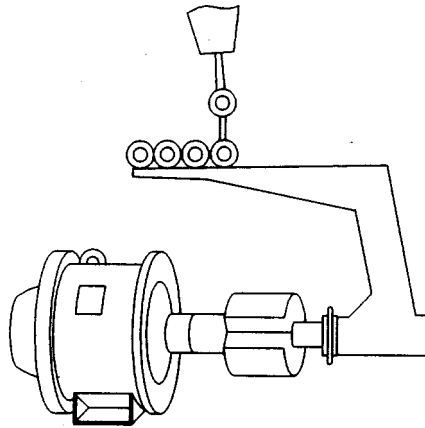

FIGURE 5-12. ROTOR ASSEMBLY LIFTING DEVICE (TYPICAL)
- (4) Remove bolts (23), lockwashers (24), and fan (25) from drive hub (26).
- (5) Attach a suitable rotor lifting device to drive hub (26) and overhead hoist as shown in Figure 5-12.
- (6) Remove end bell and main bearing. Refer to paragraph 5.10.2.
- (7) Remove rotating rectifier, paragraph 5.10.3
- (3) Attach suitable rotor lifting device to drive hub (26) and overhead hoist as shown in Figure 5-12.